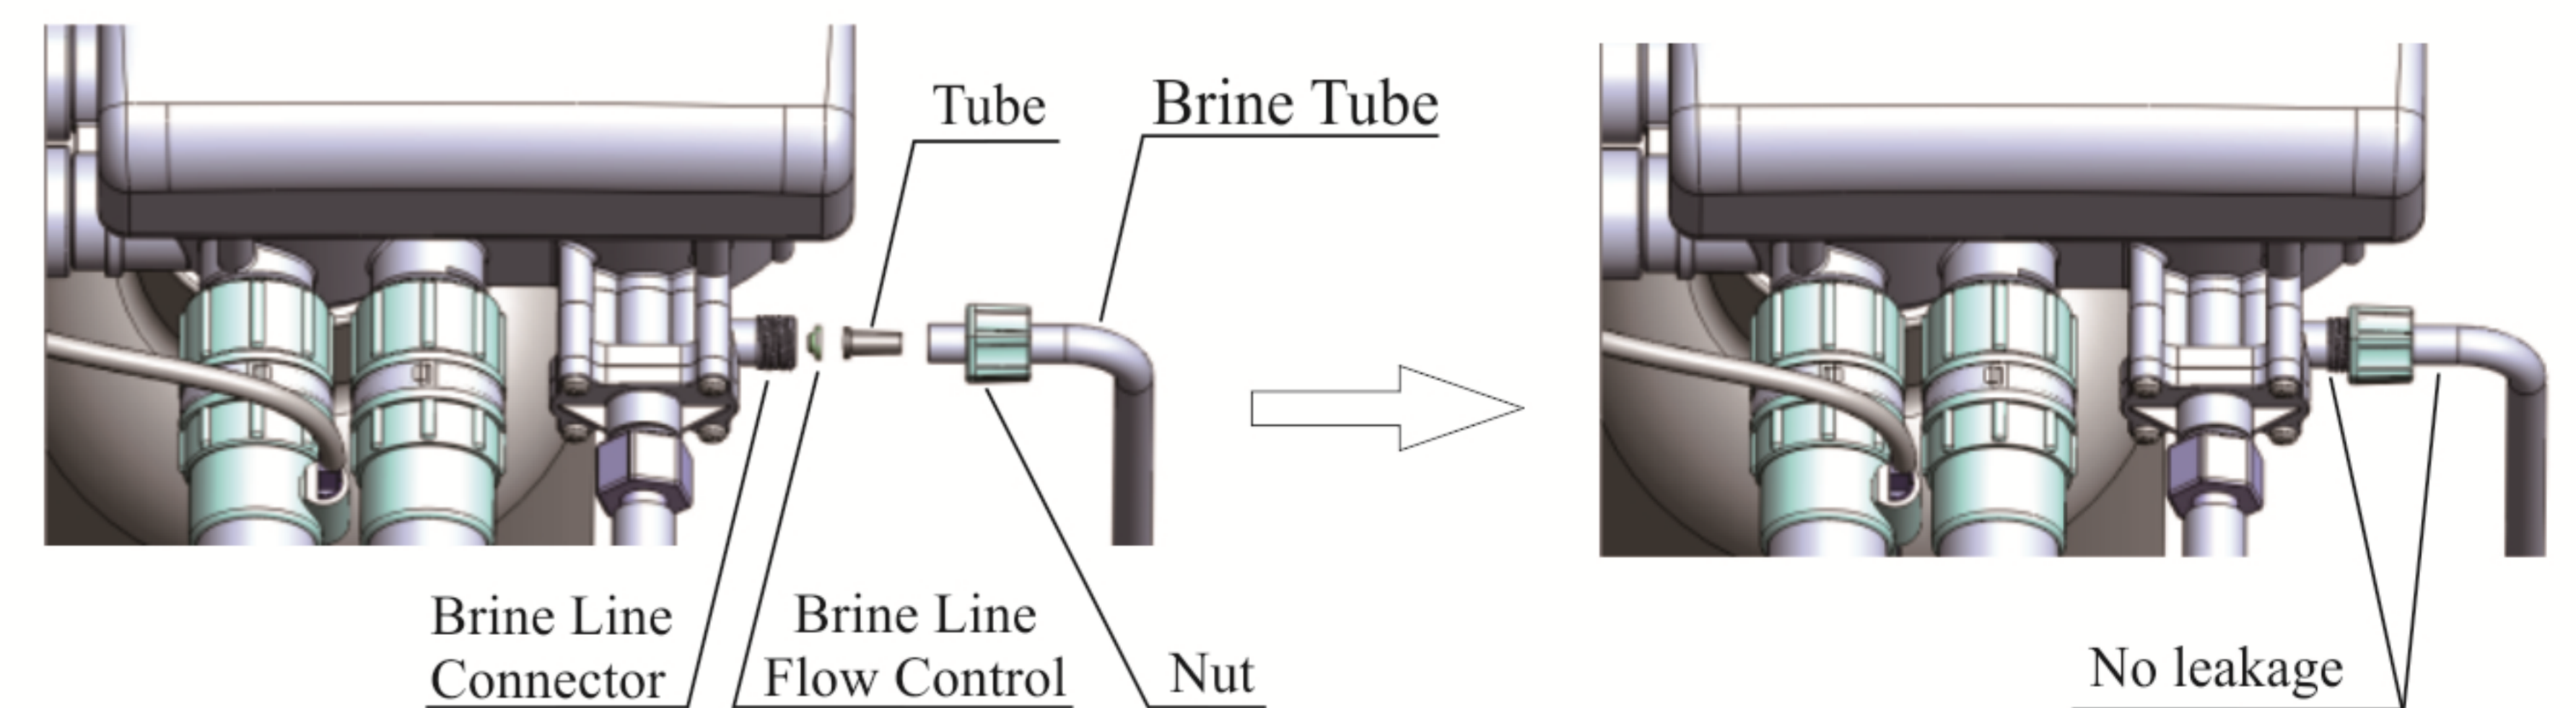

Figure 1-5
- As Figure 1-5 shows, slide 3/8" brine tube hose connector over end of brine tube.